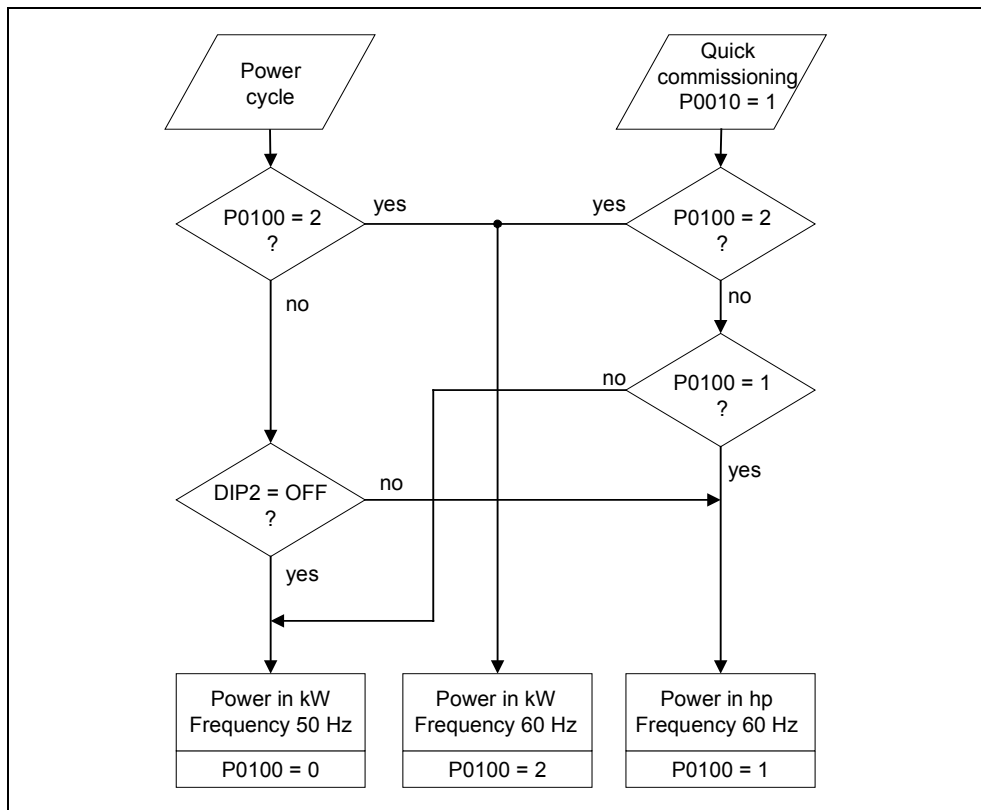

Fig. 3-20 Mode of operation of the DIP2(2) switch in conjunction with P0100
The switch determines the value of parameter P0100 corresponding to the following diagram (refer to Fig. 3-20). Besides P0100 = 2, after the power supply voltage has been switched-in, the DIP2(2) switch determines the 50/60 Hz setting (value of parameter P0100).